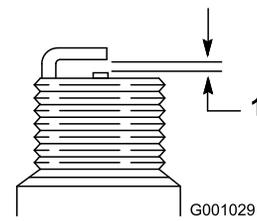

Figure 38
4. Set the gap between the electrodes on a new spark plug at 0.76 mm (0.030 inch) as shown in Figure 38.